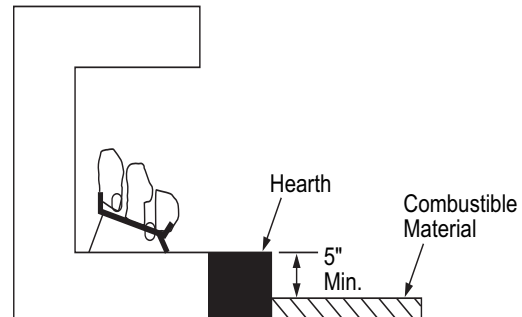

Figure 7 - Minimum Fireplace Clearances Above Combustible Flooring
- B. If combustible materials are less than 14" to the fireplace, you must install appliance at least 5" above the combustible flooring (see **Figure 7**).